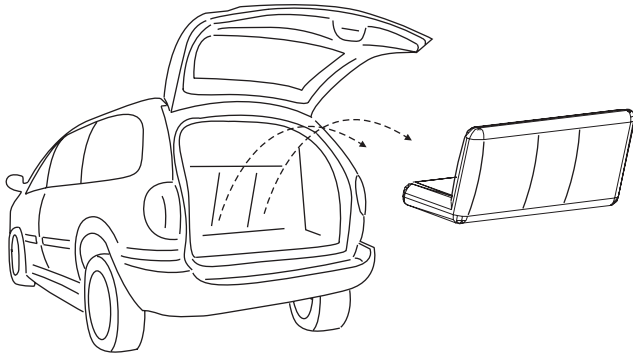

Figure 4-7
1. Remove 3rd Row Seating. *See Figure 4-7.*